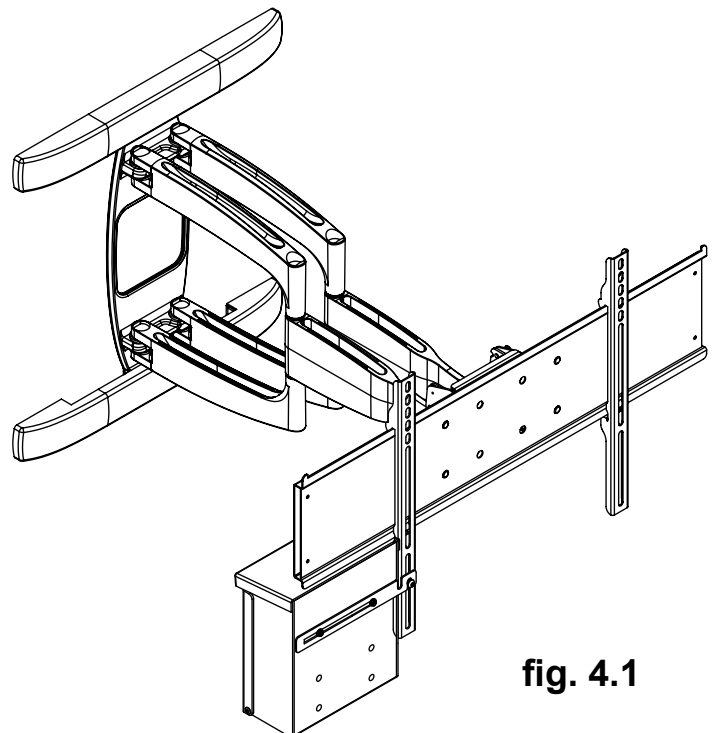

fig. 4.1
- 4-3** Hook the top of the display brackets onto wall plate provided with ESA763PU, swing and align the bottom of the display brackets with the wall plate and secure each screw within both display brackets using a 4mm allen wrench (L).
- 4-4** Make sure the top of the enclosure box is flush with the bottom edge of the wall plate. Also make sure the side of the enclosure box is flush with the side of the display bracket. Tighten down all screws and nuts to prevent the enclosure from swinging. See fig. 4.1.